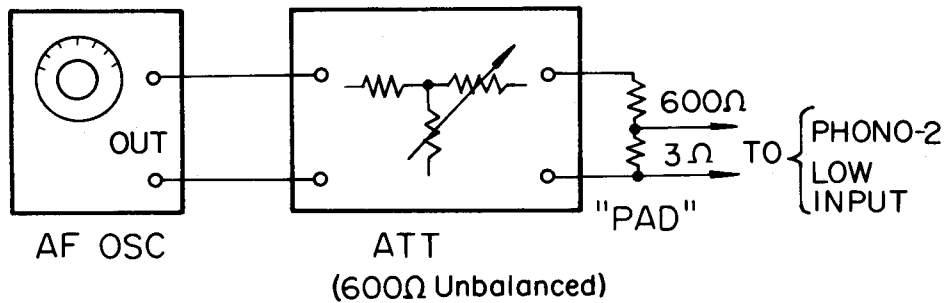

Fig. 3-1. PHONO-2 (LOW) Sensitivity Measurement Test Set-up
Note: a. When measuring the sensitivity of the PHONO-2 LOW input, insert a pad with a loss of 43 dB between the attenuator and input terminal. See Fig. 3-1.
(8) PHONO-2 Input (LOW)
Step 3: Adjust the attenuator to obtain a 1 volt reading on the VTVM. The input sensitivity is the attenuator reading plus the pad loss. See Fig. 3-1.
(9) TAPE HEAD Input
(10) MIC Input